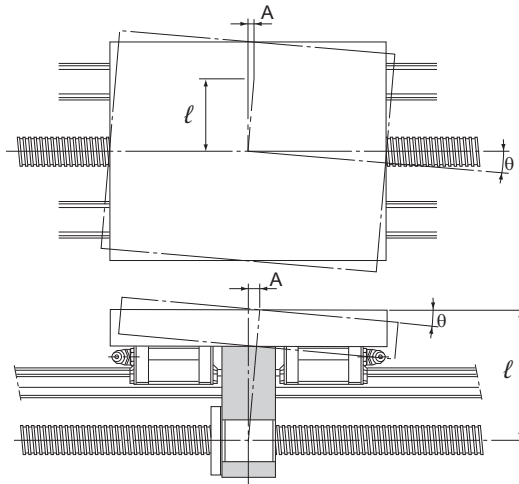

Fig.9
- $\ell$  : Vertical (or horizontal) distance from the ball screw center (mm) (see Fig.9)